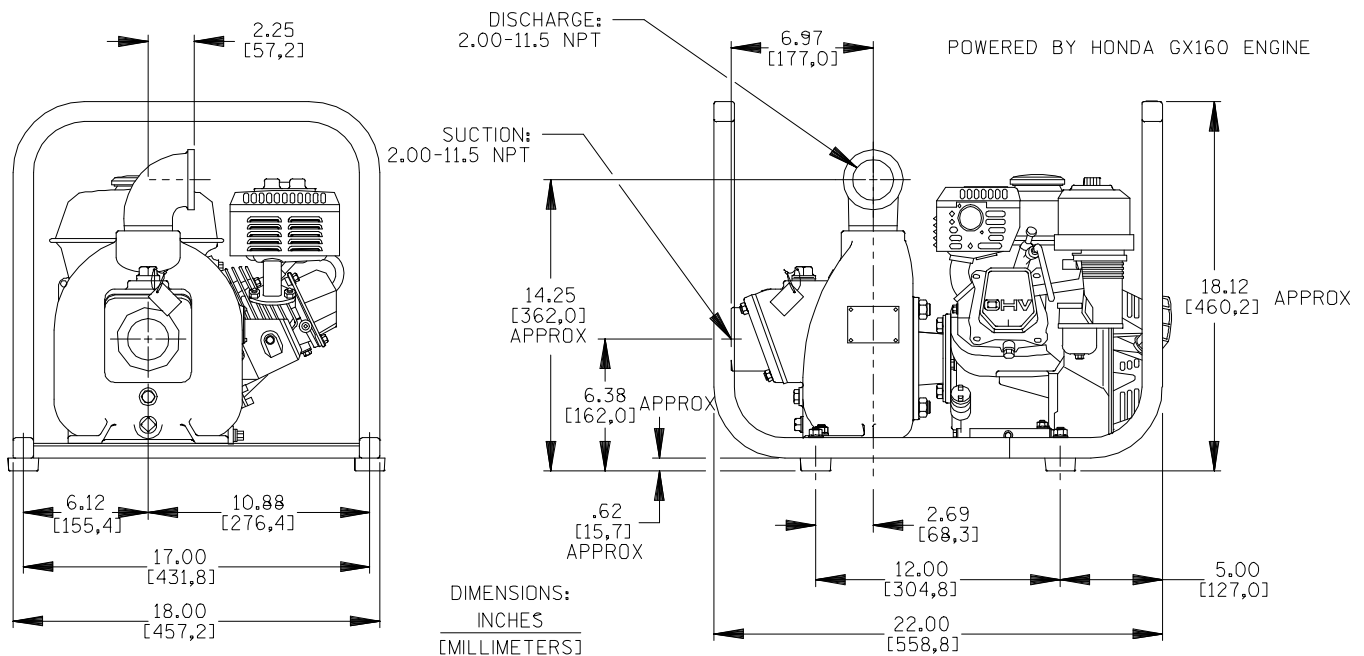

Figure 1. Pump Model 82D1-GX160
See Figure 1 for the approximate physical dimensions of this pump.
- e. The rubber foot mounting kit (see the Parts List, Section E, Page E—3) was shipped loose with the pump. Refer to Figure 1, Page E—2 and install the parts as shown.